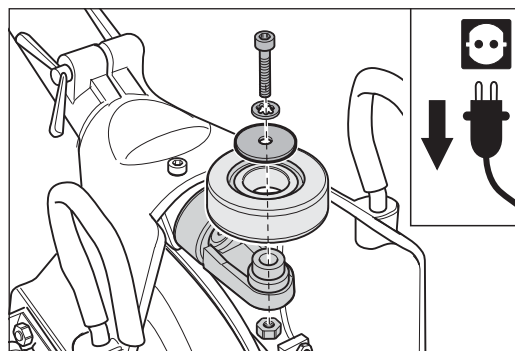

Fig. 88 Remove the screw with the washers and nut in the centre of the wheel and take off the back wheel. Assemble in reverse sequence.
- 3 Release the screw in the centre of the wheel and remove the screw, washers and nut (Fig. 88). Ensure that you do not lose the nut.